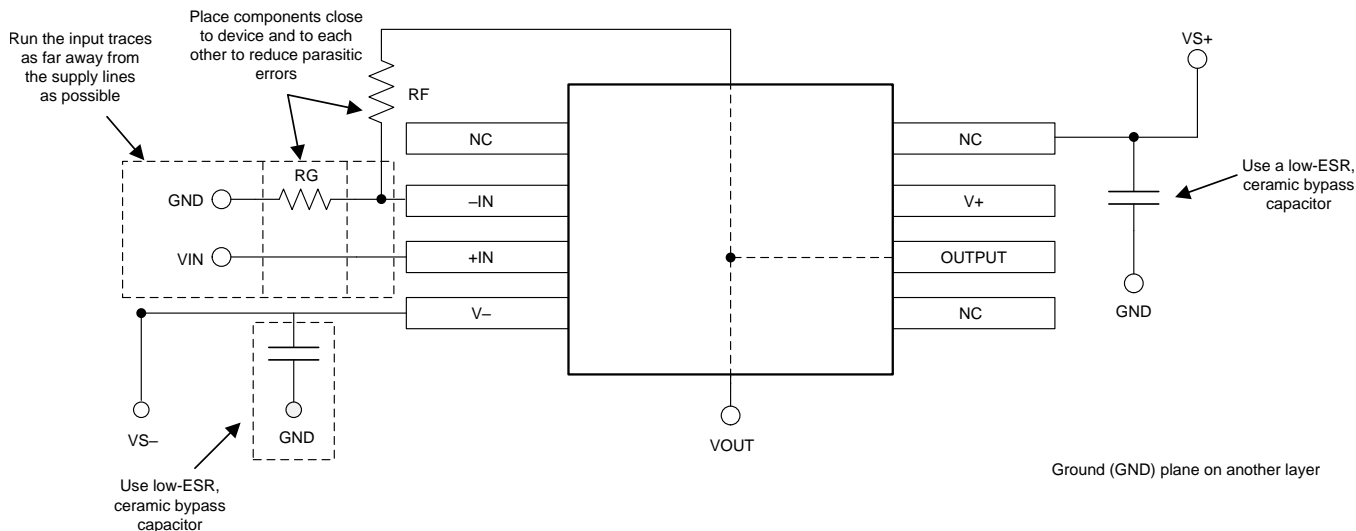

Figure 56. Operational Amplifier Board Layout for Noninverting Configuration
- Place the external components as close to the device as possible. As illustrated in Figure 56, keeping RF and RG close to the inverting input minimizes parasitic capacitance.